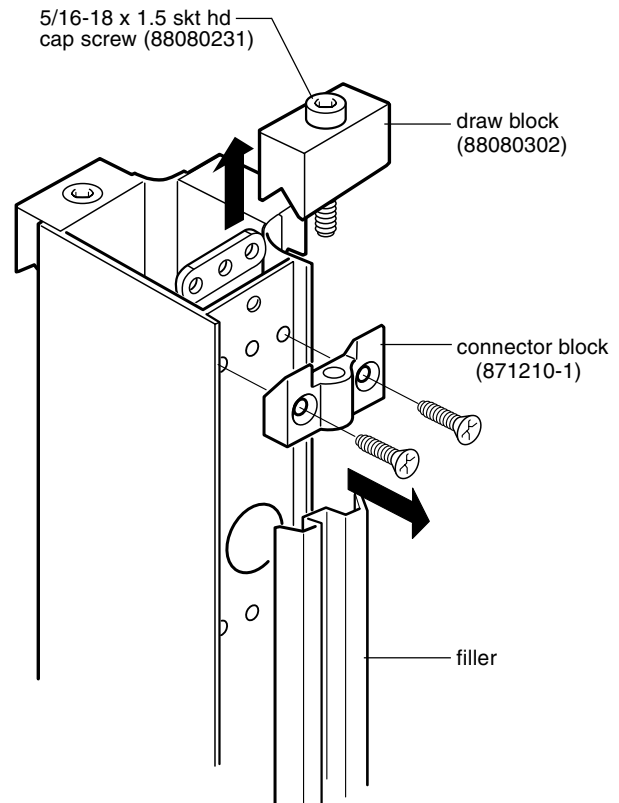

Figure 1
2. On the side that is to be changed, remove the top draw and wedge block, the inside nut plate that secures the wedge block screws, and the filler from this side and the opposite side of connector. (Figure 1)